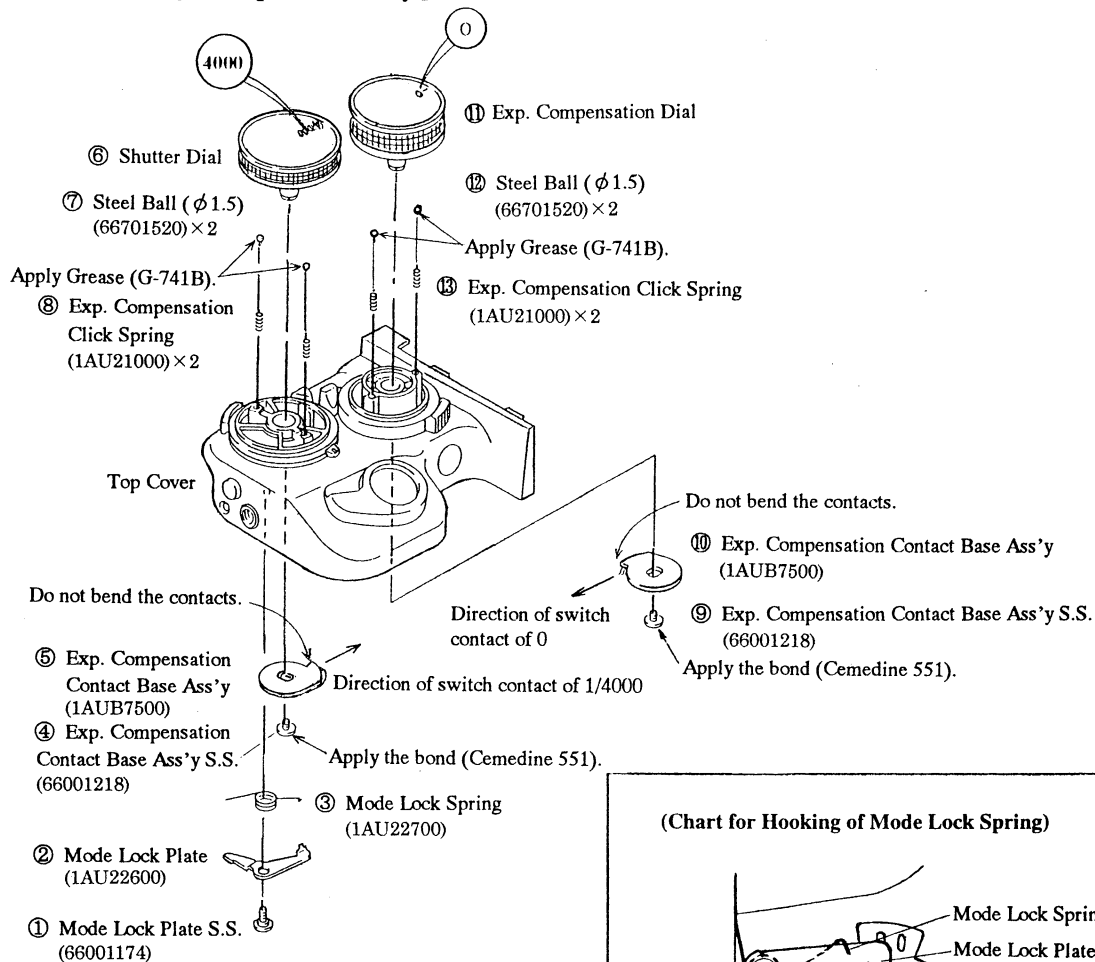

Fig. 21
- 1) Remove the parts in the numerical order of ① to ⑬ as shown in Fig. 21.